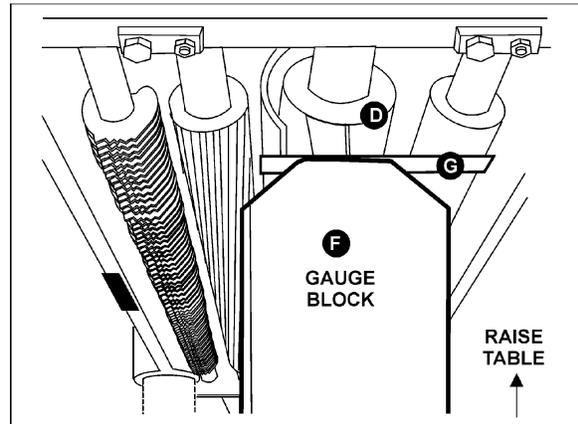

Figure 26
3. Place the gauge block (F, Figure 26) on the table directly beneath the cutterhead (D, Figure 26).
4. Using a 0.032" (0.81mm) feeler gauge (G, Figure 26) placed on top of the gauge block, raise the worktable until the knife just touches the feeler gauge when the knife is at its lowest point. Do not move the worktable any further until the outfeed roller is adjusted.